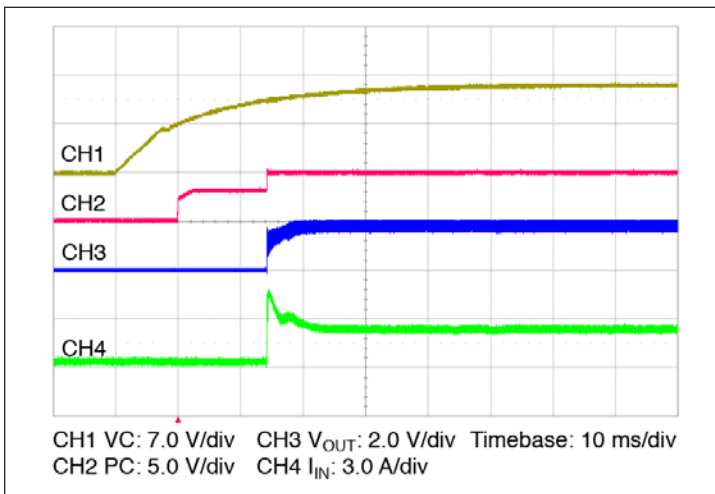

Figure 11 — Start up from application of VC;
- **Stand-alone operation (VC applied after V_{IN}):** In this case the VTM output will begin to rise upon the application of the VC voltage (See Figure 11). The Adaptive Soft Start Circuit (See Section 11) may vary the output rate of rise in order to limit the inrush current to its maximum level. When starting into high capacitance, or a short, the output current will be limited for a maximum of 120 μ sec. After this period, the Adaptive Soft Start Circuit will time out and the VTM module may shut down. No restart will be attempted until VC is re-applied or PC is toggled. The maximum output capacitance is limited to 27000 μ F in this mode of operation to ensure a successful start.